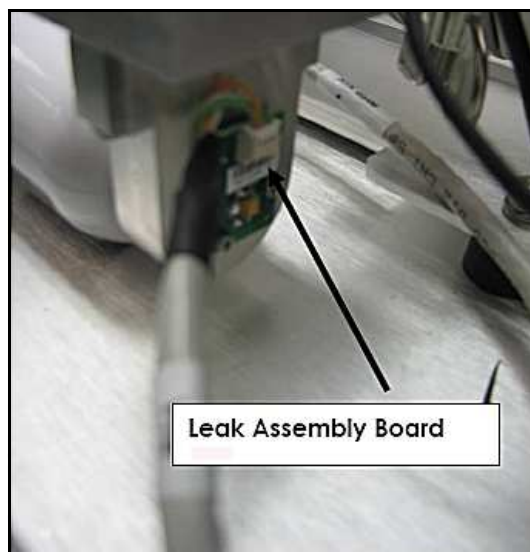

Figure 5: Leak Assembly Board Connection
10. Connect the calibrated leak temperature cable end labeled P1A to the leak assembly board connector J1A (Figure 5: Leak Assembly Board Connection).